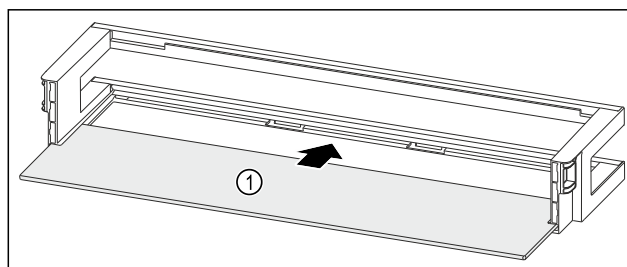

Fig. 260 Door rack with shelf
- ▶ Push the shelf Fig. 260 (1) into the side recesses.